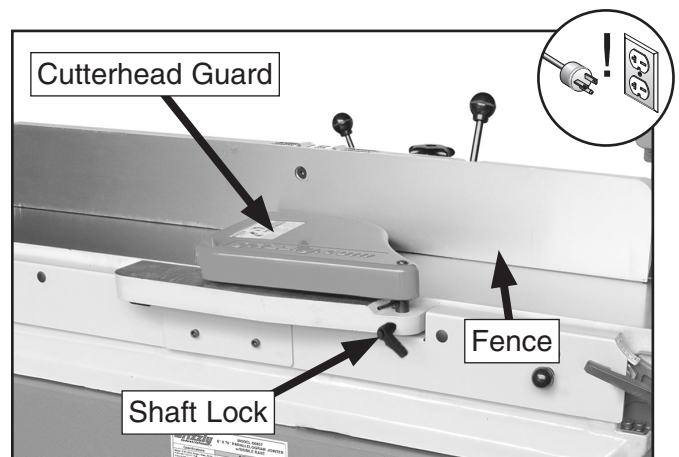

Figure 14. Cutterhead guard components.
10. Remove pre-installed button head cap screw and fender washer from bottom of cutterhead guard shaft; then loosen shaft lock and insert shaft into mounting hole, positioned so guard rests against fence (see **Figure 14**).